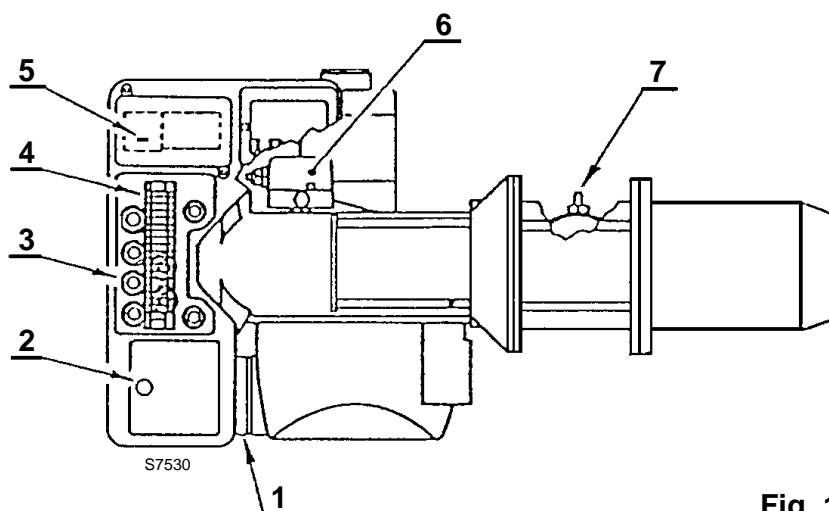

Fig. 1
**Pressure:** detected at the pressure test-point 7) (fig. 1) with nil mbar into the combustion chamber. Should the combustion chamber be pressurized, the pressure necessary will be that of the graph plus the pressurization value.
All the electrical wires, which are to be connected to the terminal block 4) (fig. 1) shall pass through the fair leads 3) (fig. 1) as for this scheme.